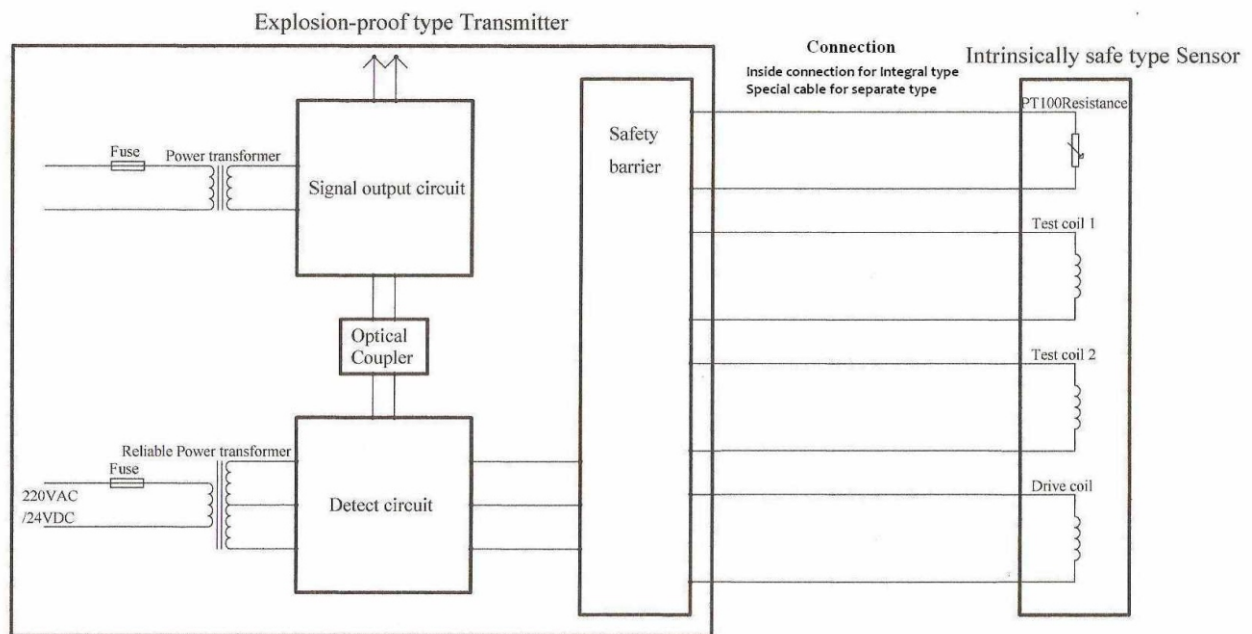

Figure 1.3 – Block diagram of the flowmeter
– Block diagram of the flowmeter is shown in Figure 1.3.